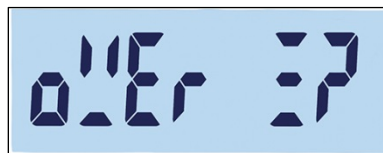

Figure 3-46: Overwrite Record Confirmation Screen
3. Either accept the proposed number by pressing , or use the direction keys to adjust the number. If an existing number is selected, an Overwrite confirmation message (Figure 3-46) displays.
To **overwrite** a record, access the "Create" screen and edit the Record Number screen to show the number of the existing record to be overwritten. Press . An overwrite confirmation message (Figure 3-46) will appear. Press  to confirm the action, or  to return to the Create screen.